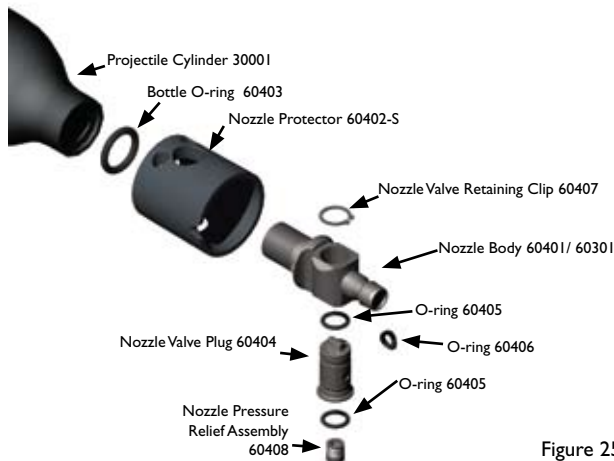

Figure 25a - Nozzle Valve Assembly 604
3. Remove the Nozzle Plug Retaining Clip from the Nozzle Valve Plug using Retaining Clip Pliers. (Fig. 25a)
2. Remove and inspect the Pressure Relief Assembly. - If it has not burst it can be reinstalled. (Fig. 25a)
6. Re-install the Pressure Relief Assembly. (Fig. 25a)
3. Install a new Pressure Relief Assembly. (See Fig. 25a for reference)